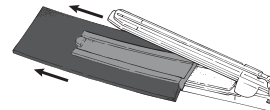

Figure 5
17. Release stapler jaws to remove and discard foam (See Figure 5).